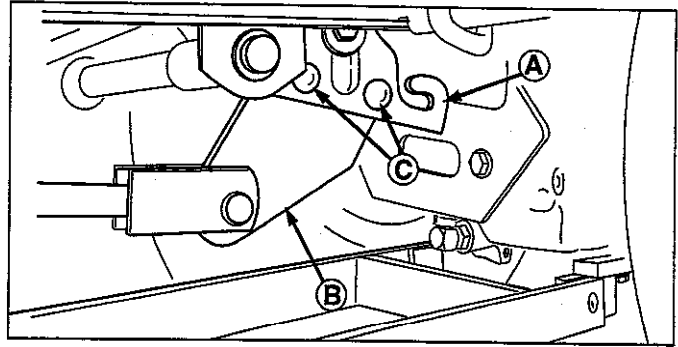

Figure 6. Attachment Lift Extension
1. Install the attachment lift extension (B, Figure 6) on the left attachment lift arm (A) using two 3/8-16 x 1" carriage bolts (C), lockwashers, and nuts as shown in Figure 6.